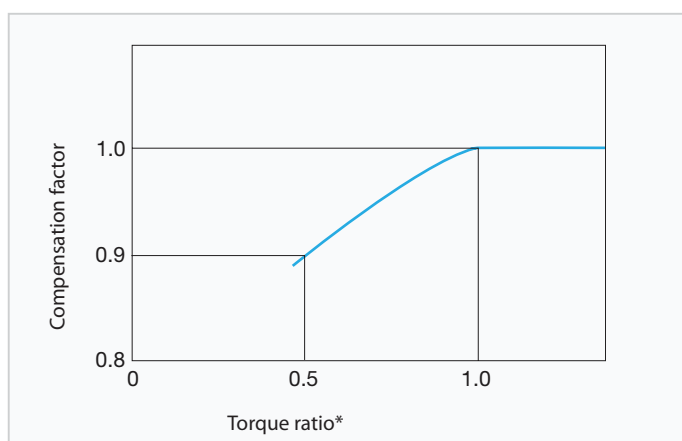

Fig. D-3 Compensation curve for efficiency
1. The efficiency changes if the load torque does not match the nominal torque. Check the compensation factor in the diagram Fig. D-3
2. When the torque ratio is over 1.0, the compensation factor for efficiency is 1.0 (diagram Fig. D-3).